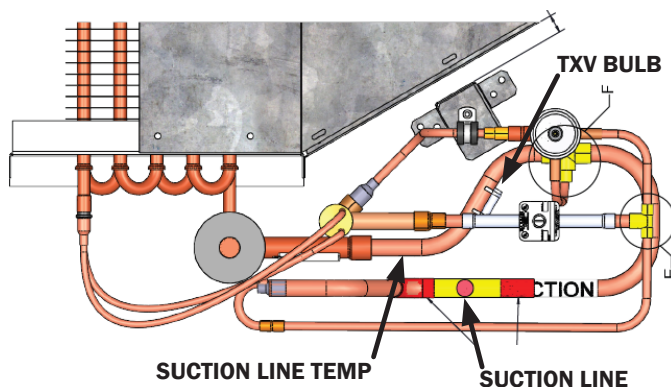

Fig. 103 Obtain pressure/temperature readings from these points
1. Obtain the suction pressure from the access port. Obtain the suction line temperature from the area near the TXV bulb at the outlet of the evaporator coil (Fig. 103).